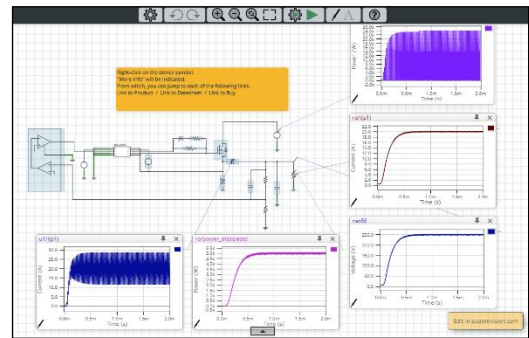

Figure 3. A simulator is started on the Web browser.
2. Click the “Simulation” button to start the simulator on the Web browser (Figure 3).